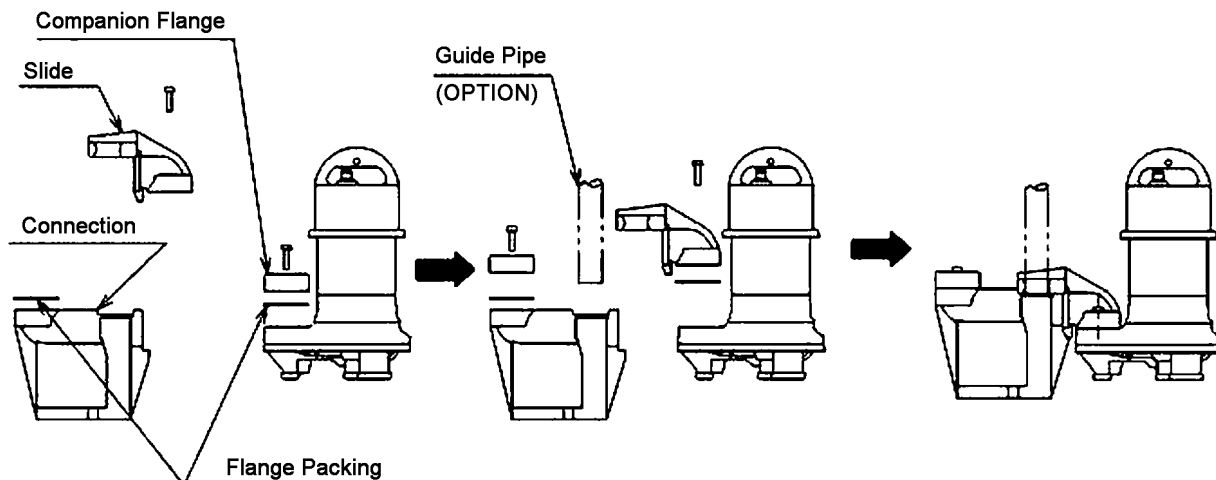

Fig3. Illustration of caption2&3
2. Install a Guide Pipe. (A Guide Pipe is not included in the accessories.) (See Fig3)
3. Detach the companion flange from the pump, attach the flange packing to the Connection, and connect the pipe to the Connection using the companion flange. (See Fig3)